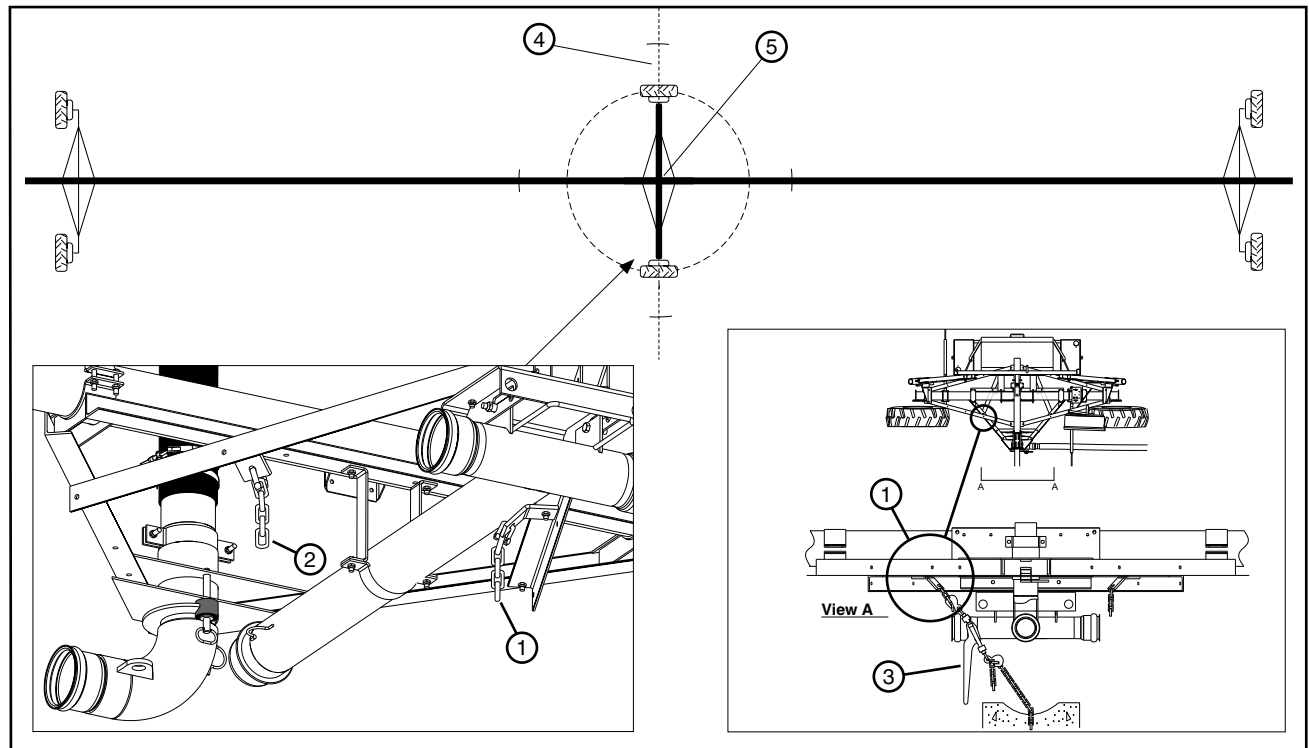

Figure 55-2 Concrete Anchor Method.
6. Tie the machine to the anchor with a load binder attached to one of the short chains on the drive unit depending on the direction the machine will be rotated. See figures 55-2.
7. When the machine is started it will pivot around the center of the base beam. See figures 55-2.